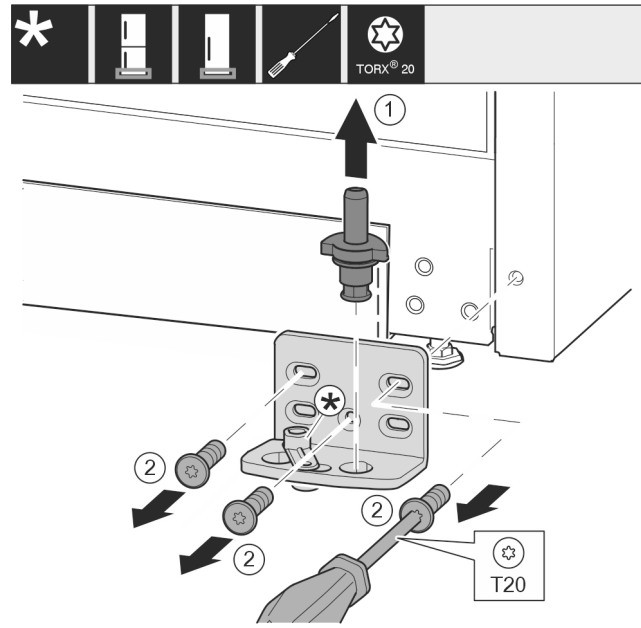

Fig. 11
- Pull the bearing bolt Fig. 11 (1) out upwards completely.
- Use screwdriver to unscrew the screws Fig. 11 (2) and remove the swap bearing block.